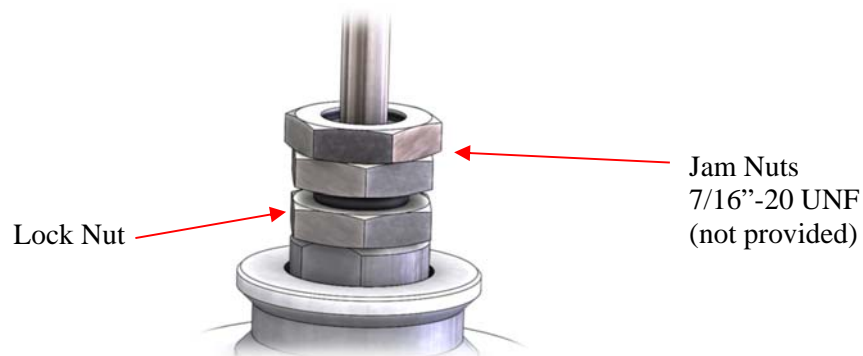

Figure 21: Jam Nuts Used on Adjustment Screw
7. Loosen the lock nut by using two additional jam nuts on the adjustment screw to prevent it from turning. See Figure 21.